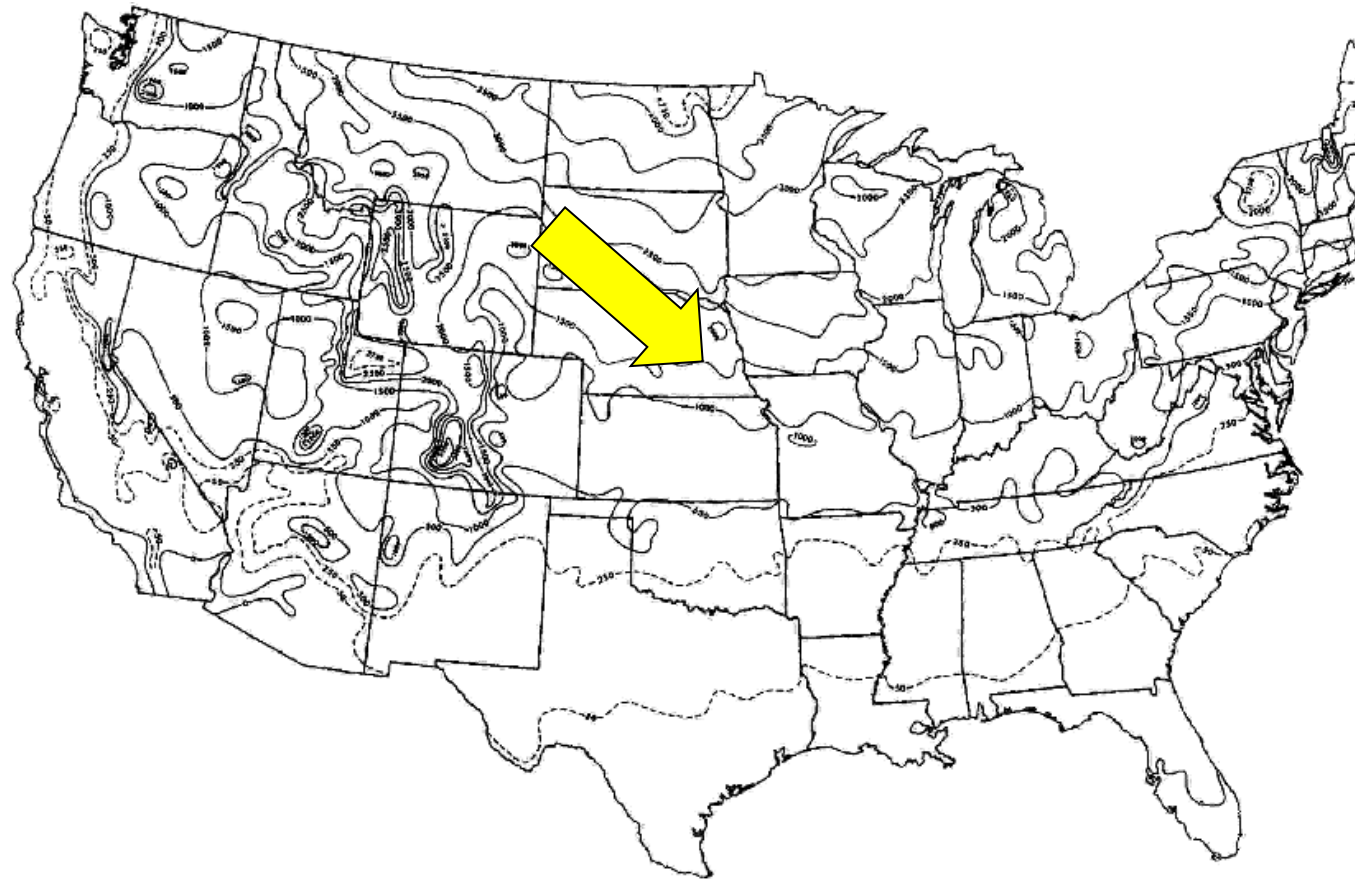

Figure R403.3(2) Air-Freezing Index
- STEP 1: Determine AFI per Figure R403.3(2)
- STEP 2: Specify and size FPSF insulation per Figure R403.3(1) and Table R403.3*
*Only XPS and EPS insulation materials listed in Table R403.3(2) and complying with ASTM C578 are permitted for FPSF construction